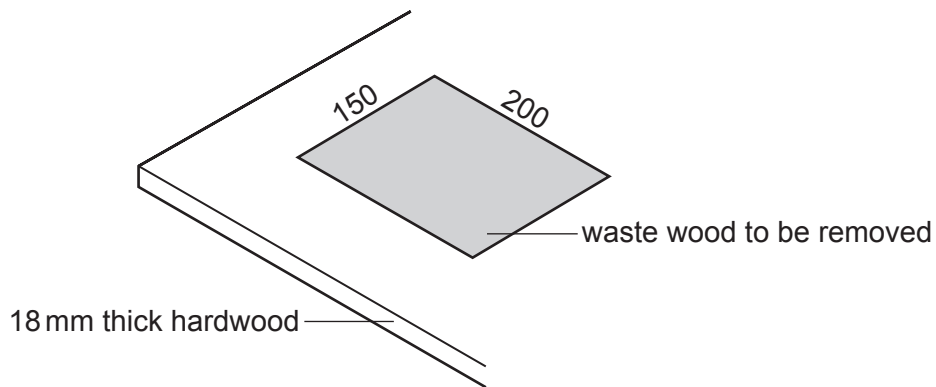

Fig. 2.1
- 2 Fig. 2.1 shows part of a table top with an area to be cut out so that a container can fit inside.